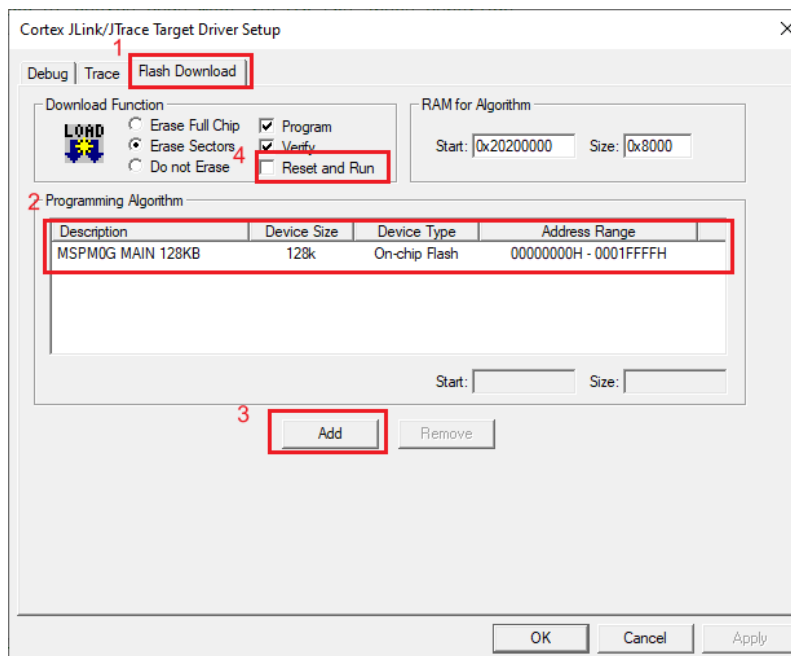

Figure 3-54. Flash Download Setting
- Click on the *Flash Download* tab and check whether the description matches Figure 3-54. If not match, click on the *Add* button and select the corresponding MSPM0 MAIN option. The device type is *On-chip Flash*. At last select *Reset and Run*.